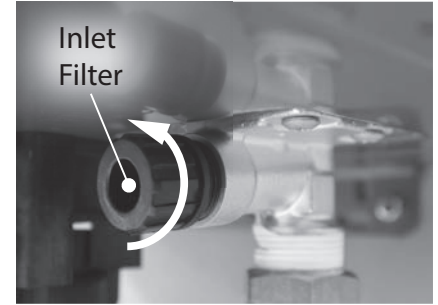

Figure 204 - Removing the inlet filter
- 8** Locate and remove the inlet filter as shown in Figure 204 to drain any residual water left in the system. Place a bucket or pan underneath inlet filter to collect water during removal.